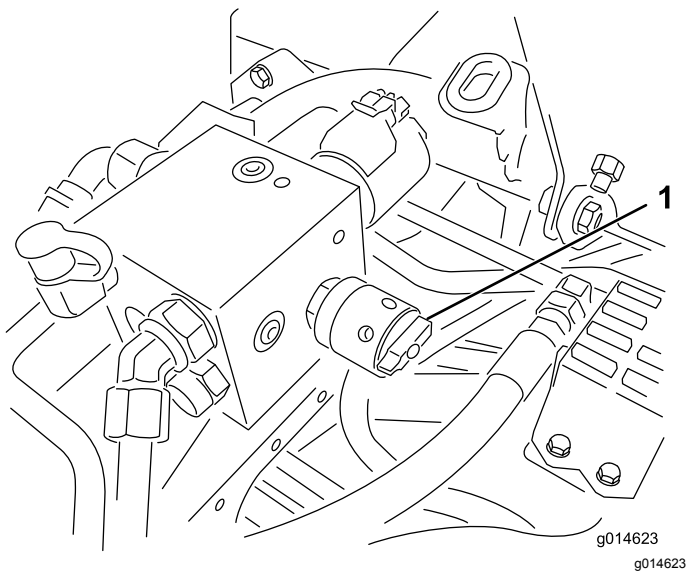

Figure 35
4. To set the reel speed, rotate the knob (Figure 35) until the indicator arrows are in line with the number designating desired setting.